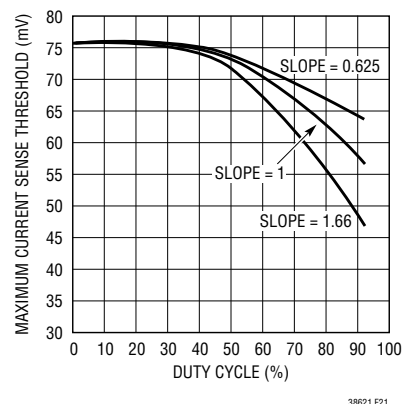

Figure 21. Maximum Sense Voltage Variation with Duty Cycle and Slope Gain
The peak sense voltage threshold for the LTC3862-1 is 75mV at low duty cycle and with a normalized slope gain of 1.00, and is measured from SENSE⁺ to SENSE⁻. Figure 21 illustrates the change in the sense threshold with varying duty cycle and slope gain.
- The maximum current sense threshold for the LTC3862-1 is 75mV at low duty cycle and a normalized slope gain of 1.0. Using Figure 21, the maximum sense voltage drops to 68mV at a duty cycle of 70% with a normalized slope gain of 1, so the sense resistor is calculated to be: